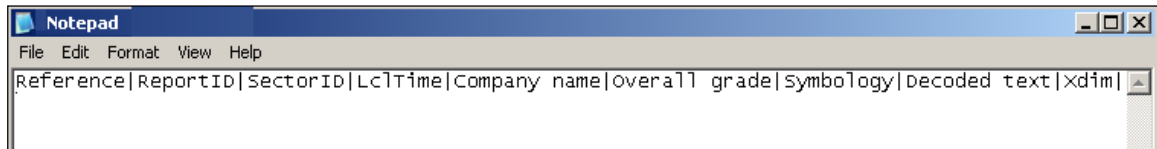

Figure 39: Parameter names delimited by vertical bars
1. Open Notepad or WordPad and type the desired parameters in the order you wish them to appear on the Reference Report. Delimit parameter names using vertical bars “|” without spaces between parameters and the vertical bars (Figure 39).